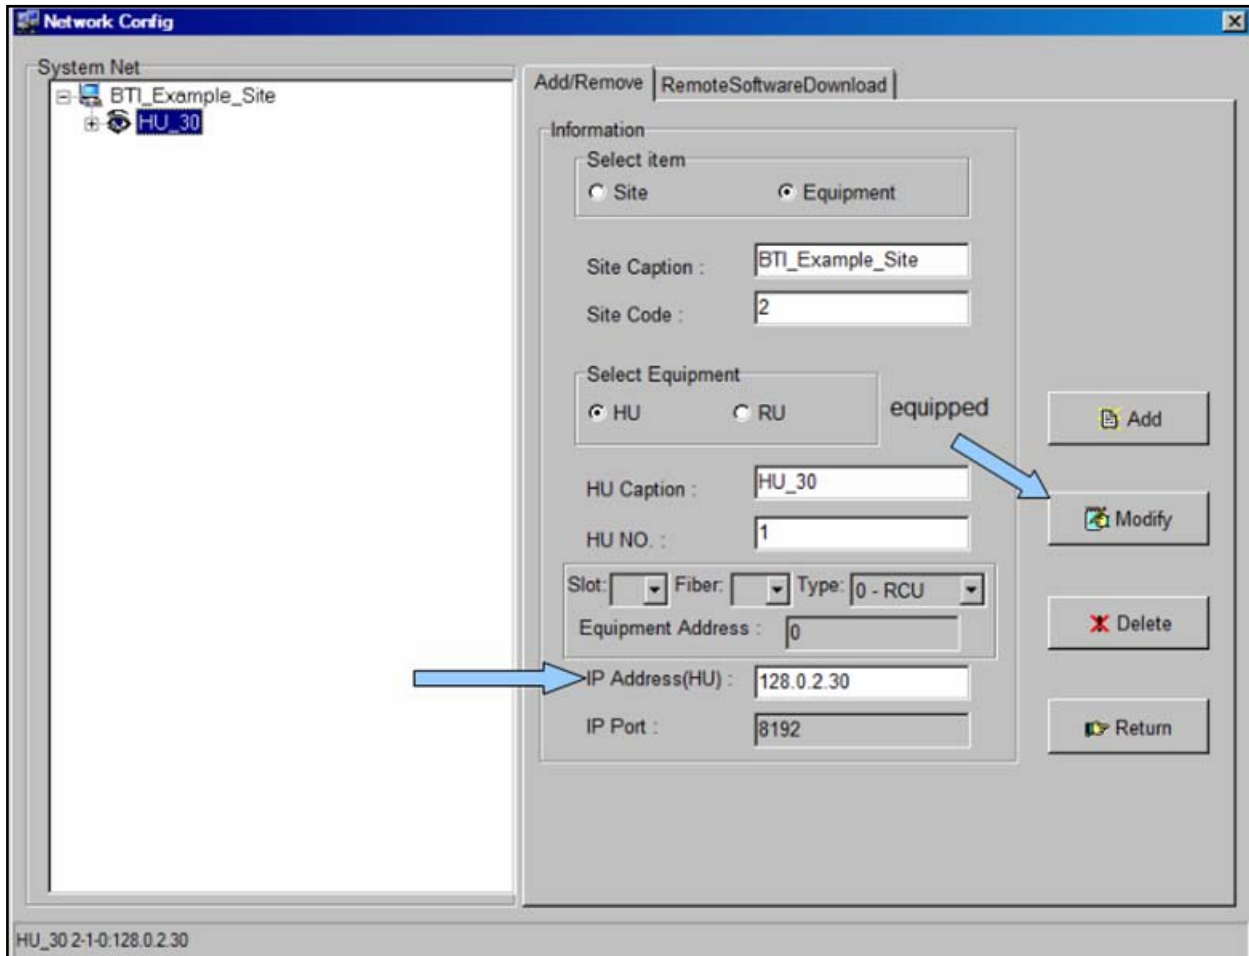

Figure 5-15. Modify IP Address(HU)
2. Select the Host Unit. **Figure 5-15.**